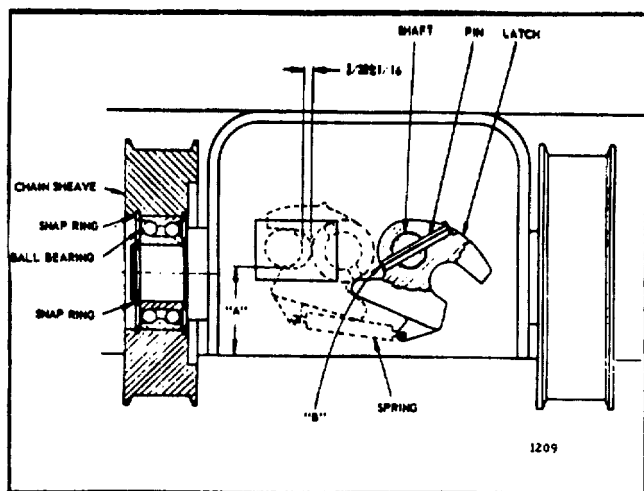

Figure 14.
2. If latches have been removed, make sure these, or new ones, are installed on the splines as they were originally. Retaining pins must not interfere with latch operation, and latches must be tight on the shafts. Refer to "B", Figure 14.
5. There should be 3/32 inch, plus or minus 1/16 inch vertical clearance, between the outer upright lug and its respective latch, when the upright is collapsed. (Fig. 14)